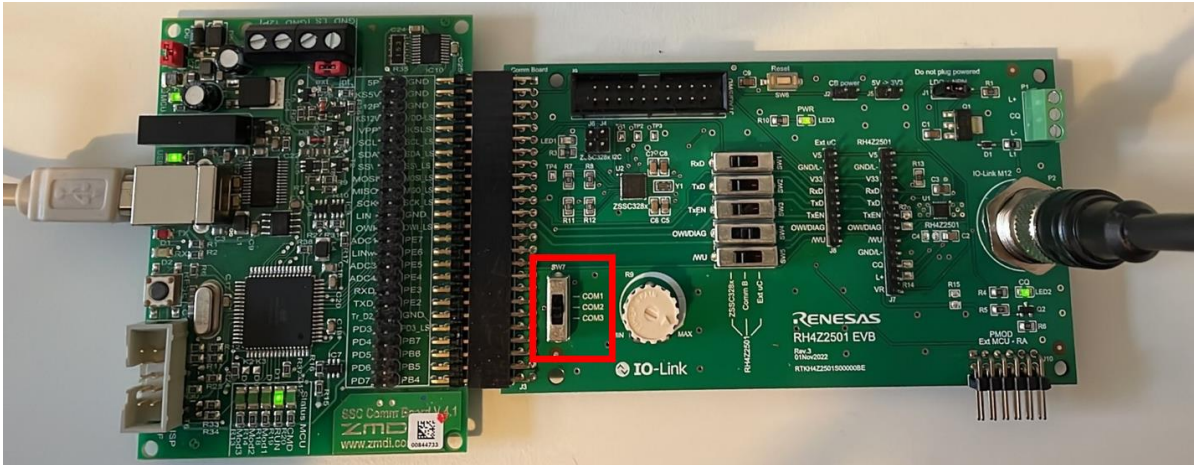

Figure 9. Selecting COM Mode by SW7
- a. Set the Switch 7 to the selected COM mode, see Figure 9.